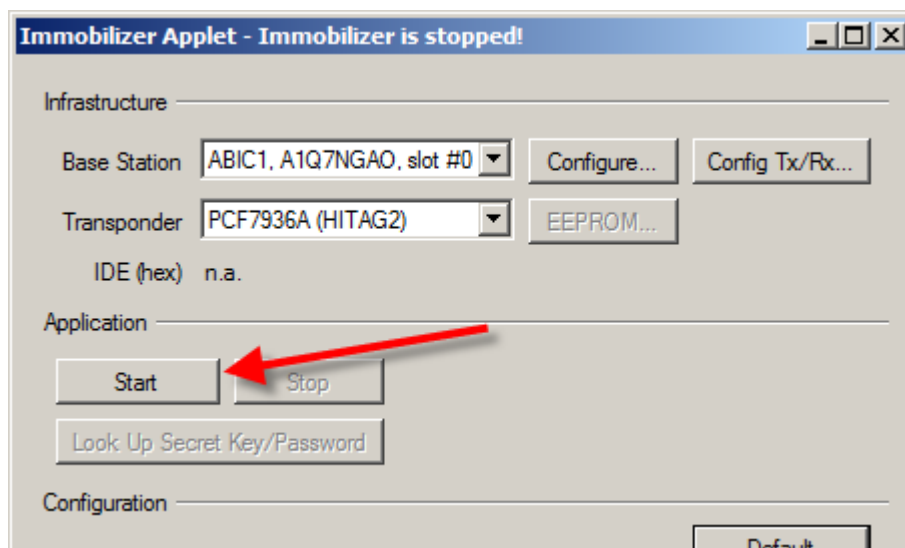

Fig 4. HITAG2 authentication starting
3. Click the Start button to start the immobilizer applet form popping up (Fig 4).